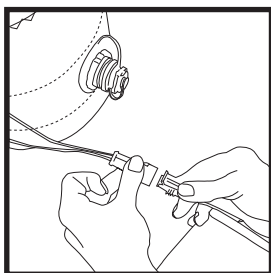

Fig. 7
1. To turn on the lighting, connect the battery cable and the cable of the tent leg (Fig. 7).